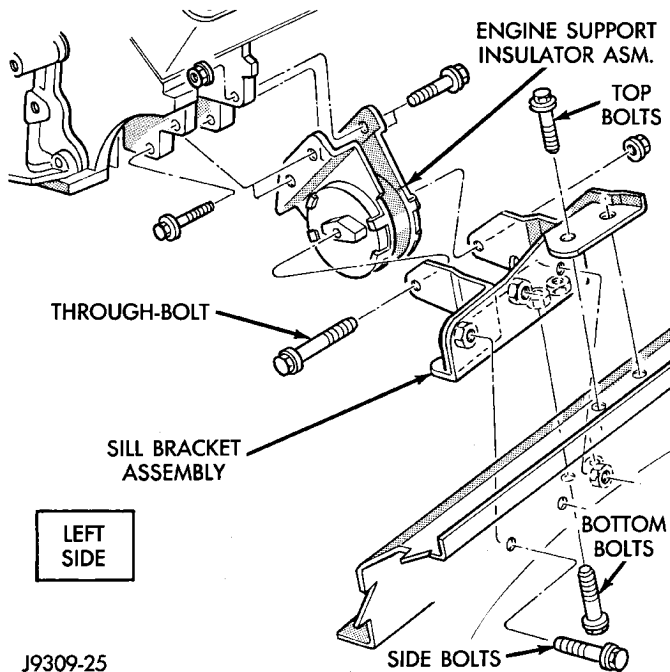

Fig. 15 Front Engine Mount—Left Side
- (3) Install engine lifting fixture.
- (4) Raise vehicle on hoist.
- (5) Remove the engine support insulator thru-bolts and nuts (Fig. 14) (Fig. 15).
- (6) Raise engine SLIGHTLY. Remove the engine support insulator bolts. Remove the engine support insulator assembly.
(b) LEFT SIDE—Install the sill bracket assembly onto the sill assembly (Fig. 15). Install and tighten the 2 top bolts to 65 N·m (48 ft. lbs.) torque. Install and tighten the 2 side bolts to 95 N·m (70 ft. lbs.) torque. Install and tighten the 2 bottom bolts to 121 N·m (89 ft. lbs.) torque.
(2) With the engine raised SLIGHTLY, position engine support insulator assembly onto the engine block (Fig. 14) (Fig. 15). Install bolts and tighten to 88 N·m (65 ft. lbs.) torque.
(3) Lower engine with lifting fixture while aligning engine support insulator assembly into sill bracket assembly.
(4) Install the thru-bolt and nut. Tighten the RIGHT SIDE nut to 81 N·m (60 ft. lbs.) torque. Tighten the LEFT SIDE nut to 81 N·m (60 ft. lbs.) torque.
(5) Lower the vehicle.
(6) Remove lifting fixture.
(7) Connect the negative cable to the battery.